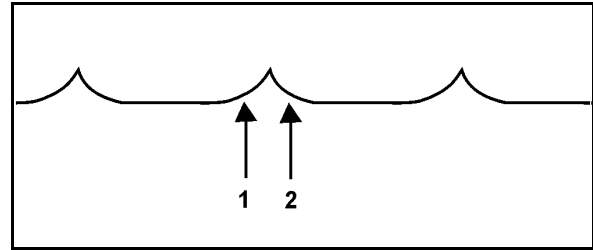

Fig. 22
- (1) Cutting edge 1st disc row
- (2) Cutting edge 2nd disc row
- Fig. 22: